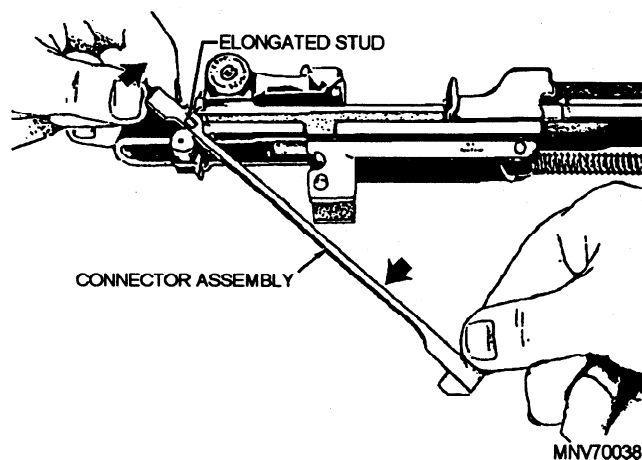

Figure 2-25.—Removing the connector assembly.
4. Rotate the connector assembly about 35 degrees clockwise until the slot at the rear is aligned with the elongated stud on the sear release (fig. 2-25); then lower the front end of the connector assembly and lift it off the sear release.